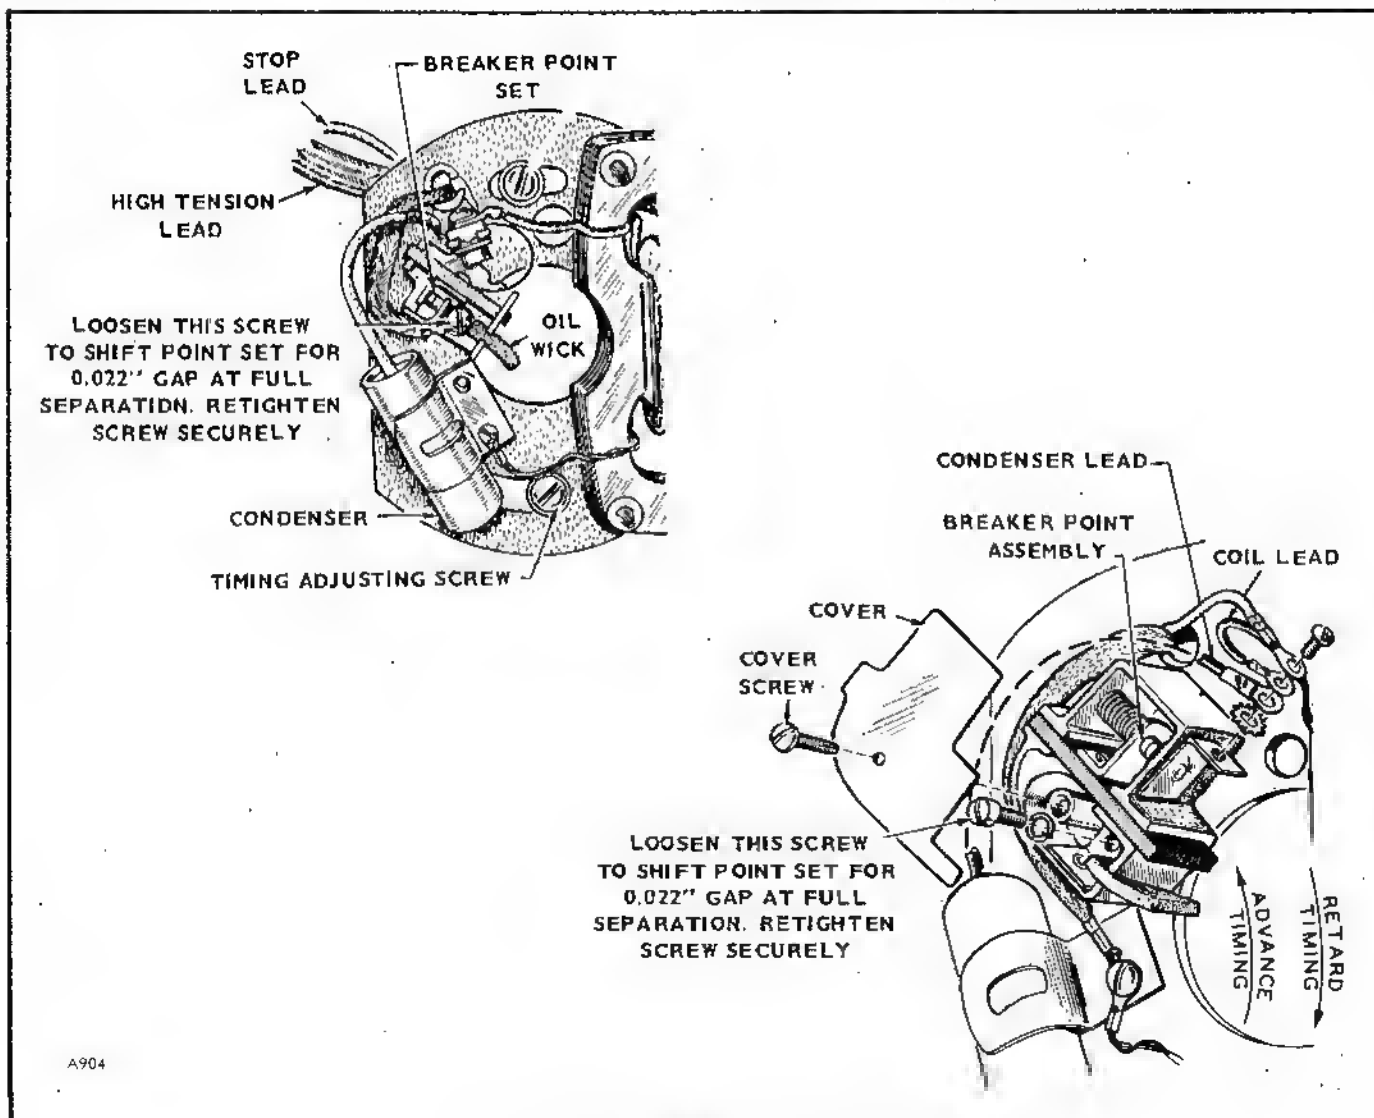

FIGURE 8. SETTING MAGNETO POINTS
Proper ignition timing is important for good engine operation. Refer to the Table of Clearances for the correct degree of spark advance before top center (TC) position of piston travel. If available, use a series type test lamp for accuracy. See Figure 8 for timing information.